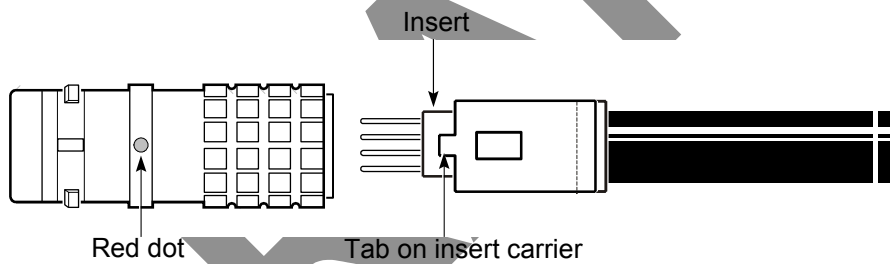

Figure 54 – Inserting the insert carrier into the outer shell
13. Put the insert carrier into the connector body; see Figure 54.